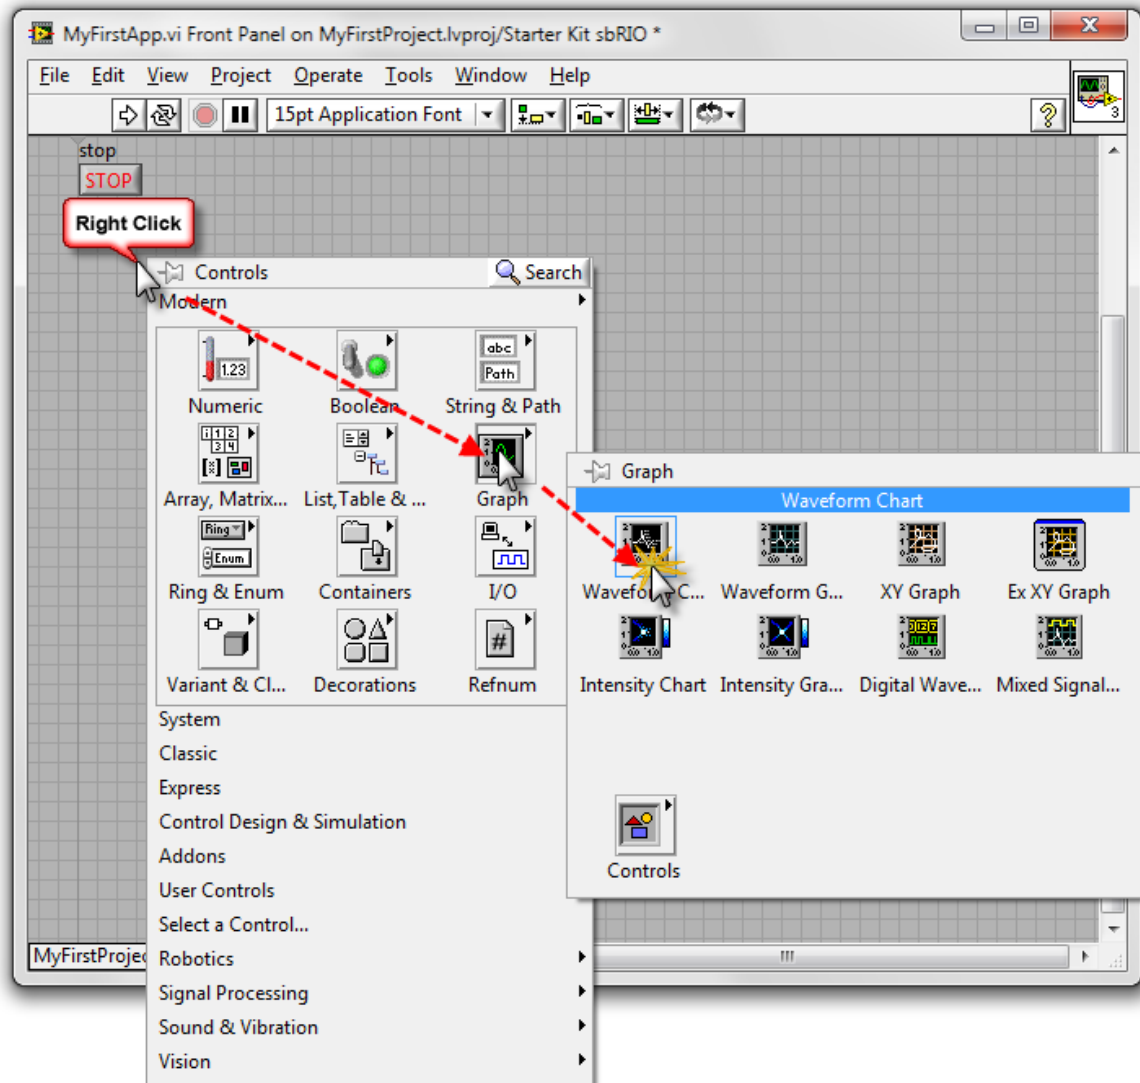

Figure 4.Placing a chart on the Front Panel [1]
8. This also works the other way. To prove this we will now create a chart. Right click on the front panel and select Graph>>Waveform Chart. (Figure 4 shows how this is done.) You can resize the chart to any dimension and a corresponding terminal has been automatically added to the Block Diagram.